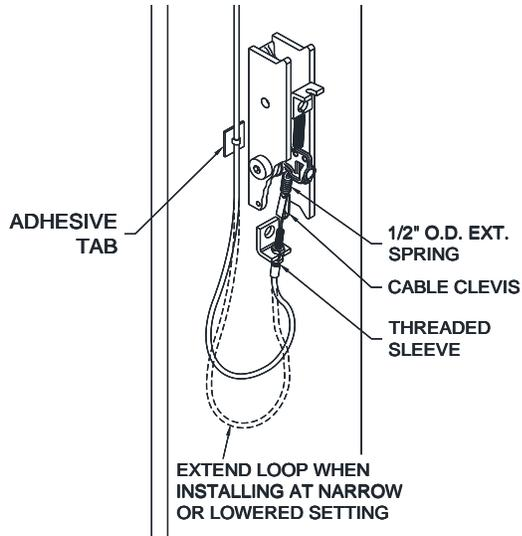

Fig. 16 – Idler Column Lock Assembly
- 36) Attach adhesive-backed tab to idler column left of the lock assembly (**Fig. 16**). Route lock release cable down left side of idler column and secure with loosely fit wire tie to adhesive-backed tab. Attach cable clevis to 1/2" O.D. extension spring.